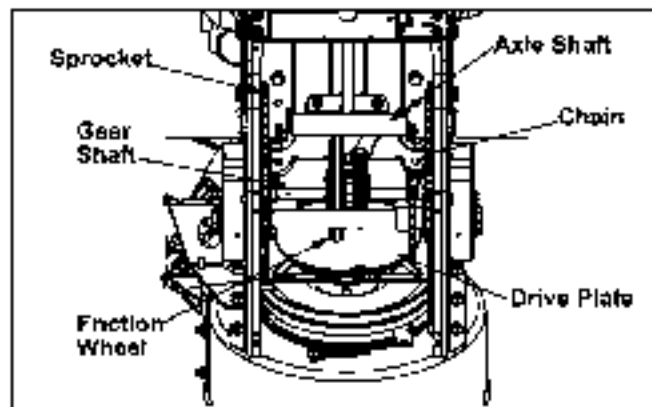

Figure 8
- With the traction control engaged, the friction wheel must contact the drive plate. See Figure 8.
Lubricate at least once a season or after every 25 hours of operation. Remove the rear cover, lubricate any chains, sprockets, gears, bearings, shafts, and shifting mechanism at least once a season. Use engine oil or a spray lubricant. **Avoid getting oil on the friction wheel rubber and aluminum drive plate.** Refer to Figure 8.